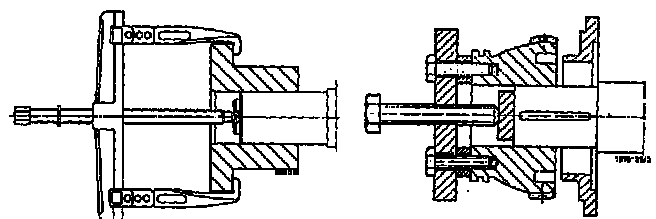

Figure 28 – Extraction of coupling hub
1. Remove coupling hub using suitable device (fig.28).
2. Remove drive side bearing cover (360) and non-drive side bearing end cover (361) including rotor position indicator (623.1).
3. Bend up lock washer between ring nut of clamping sleeve and radial roller bearing (322).
5. Gently tap front face of ring nut to loosen clamping sleeve (531) on the shaft (210).
8. Undo and remove the nuts (920.2) of the studs (902.1) in the discharge casing (107) to allow access to the bearing housing and stuffing box housing.
10. Pull thrower (507.1) off the shaft (210).
1. Proceed as per above items 4, 5, 6, 7, 8, 9, 10, 11 and 12.
2. Remove half of coupling hub using suitable device (fig. 28).